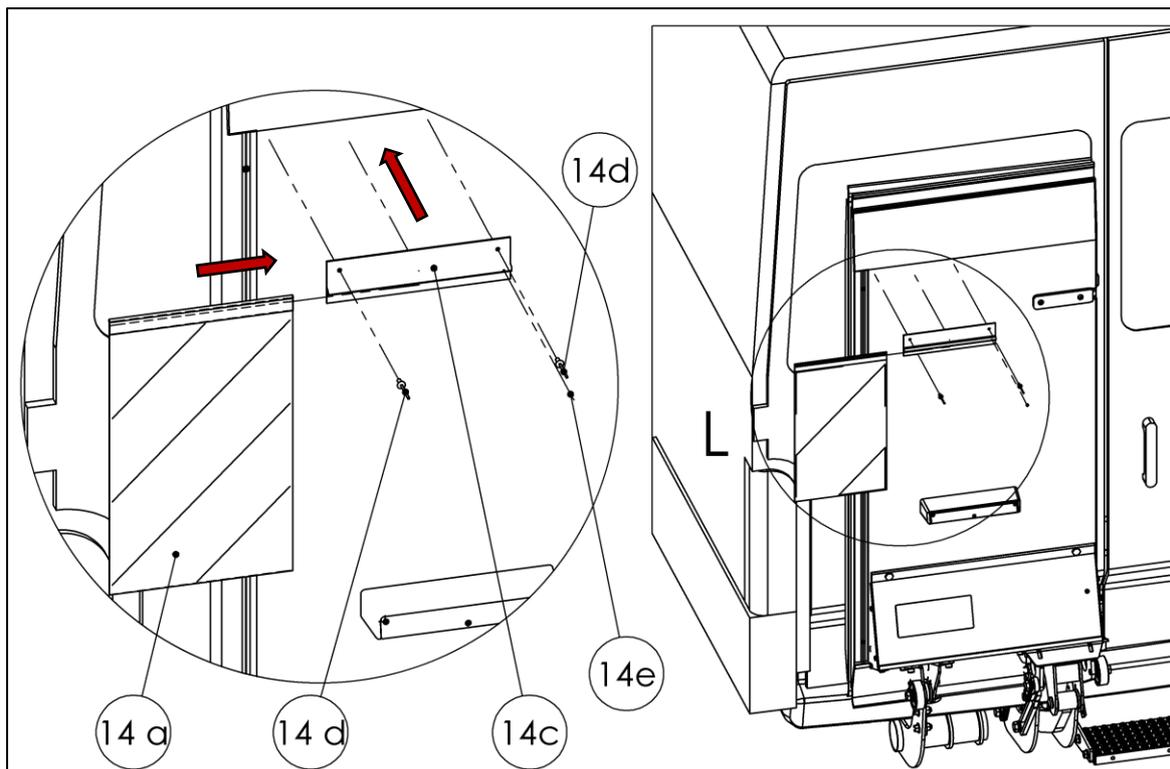
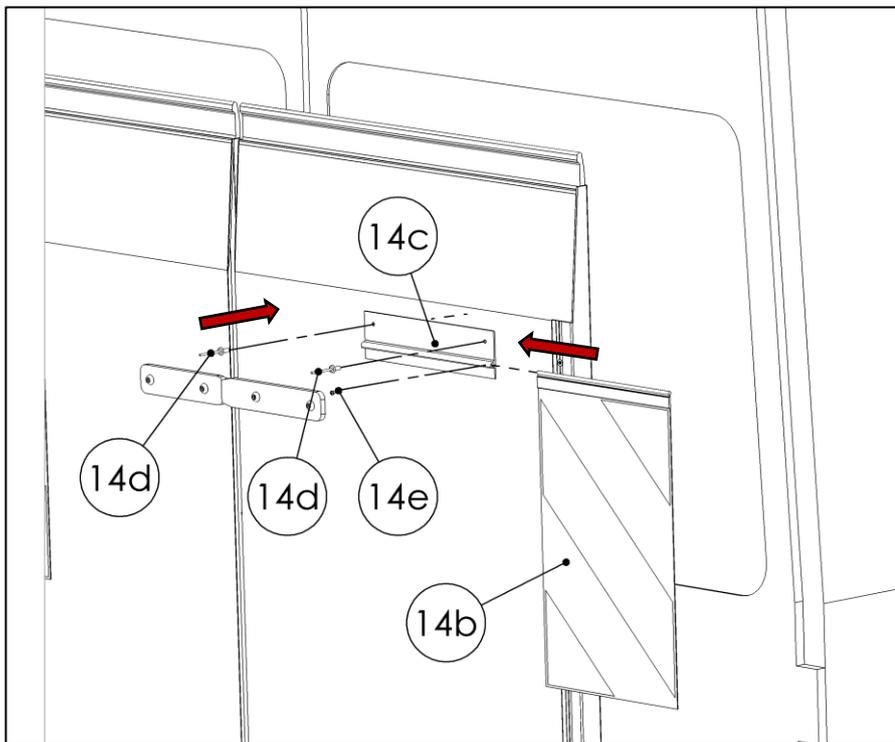

Fig. 72
Fig. 73
- Remove the warning flag kit (14, Part No. 60 710 330) from the accessories kit and mount it in accordance with the installation instructions below (Fig. 71, Fig. 72, and Fig. 73).
IMPORTANT: Identify the left warning flag (14a) by the angle of the pattern (see Fig. 72).
- IMPORTANT:** Identify right warning flag (14a) by the angle of the pattern (see Fig. 73).